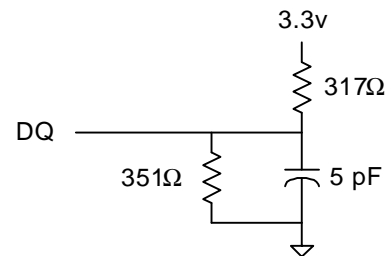

Fig. 2 OUTPUT LOAD EQUIVALENT
10. Output loading is specified with $C_L=5\text{pF}$ as in Fig. 2